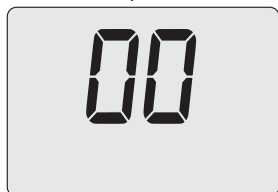

Fig. 8.46
- By using buttons 16 or 17 (Fig. 8.31) it is possible to modify the value of parameter A50 (Fig. 8.46).